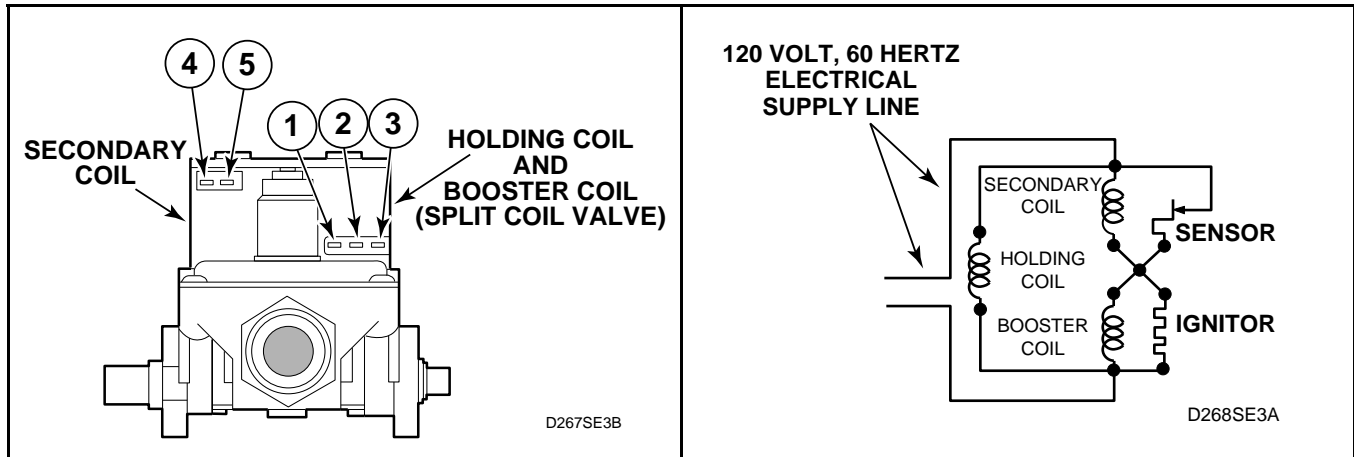

Figure 8
(Gas Models – Refer to *Figure 8*.)
- f. Set test meter to read AC voltage and apply meter probes into terminals on the dryer harness plug that would correspond to terminals “1” and “2” on the coil. *Figure 8*. Meter should register line voltage in all Fabric settings, except NO HEAT which should read “zero” VAC.